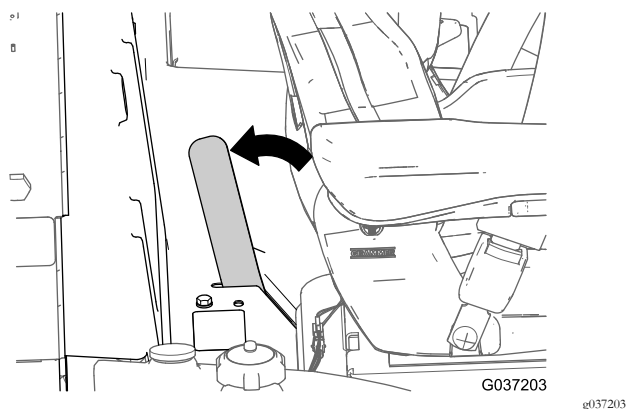

Figure 7
3. Fully lower the platform and move the locking handle toward the rear of the mower (Figure 7) until the latch hooks fully engage the locking bar.